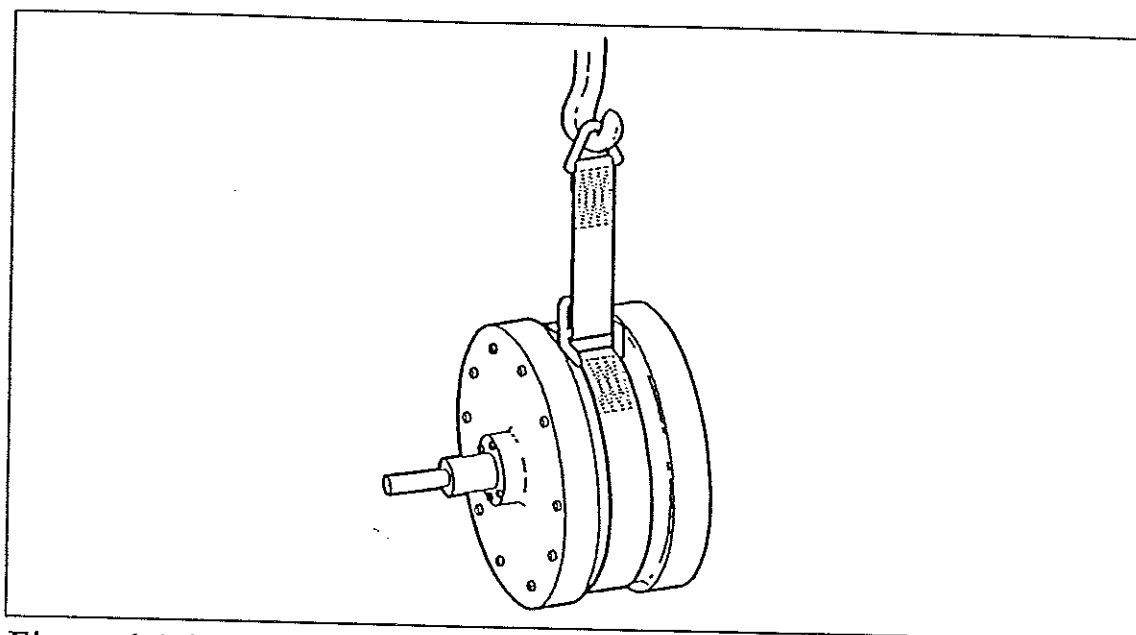

Figure 4.1.4
4.1.7 Remove Gearbox (Fig. 4.1.4)
ATTENTION ! When removing or installing the gearbox, always suspend it from a hoist or the like to avoid excessive load to the splined shaft. Use the lifting sling* as shown in Figure 4.1.4.
4.1.8 Install Gearbox (Figs. 4.1.4 and 4.1.5)